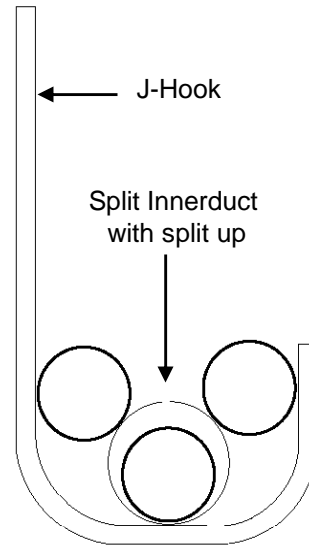

Figure 4
10.5 If more than one TP2 tube cable is supported in a J-Hook, the Split Innerduct piece may be placed around the lowest tube cable(s) only; the one(s) that rests in the J-Hook. The upper tube cables should rest on top of the Split Innerduct piece. **See Fig. 4.**